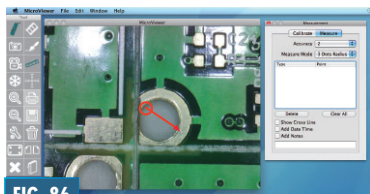

FIG. 86
4. Drag to the second point of the object and release the mouse (Fig. 86).